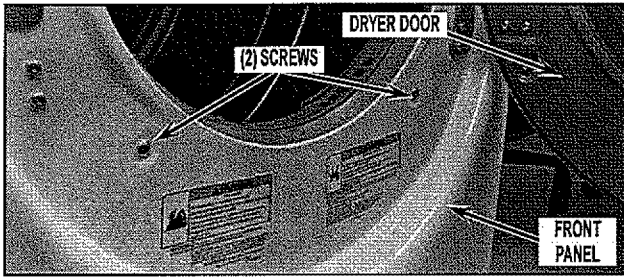

FIGURE 5
- Begin removing front panel assembly by opening door and removing the two (2) screws shown in *Figure 5*.